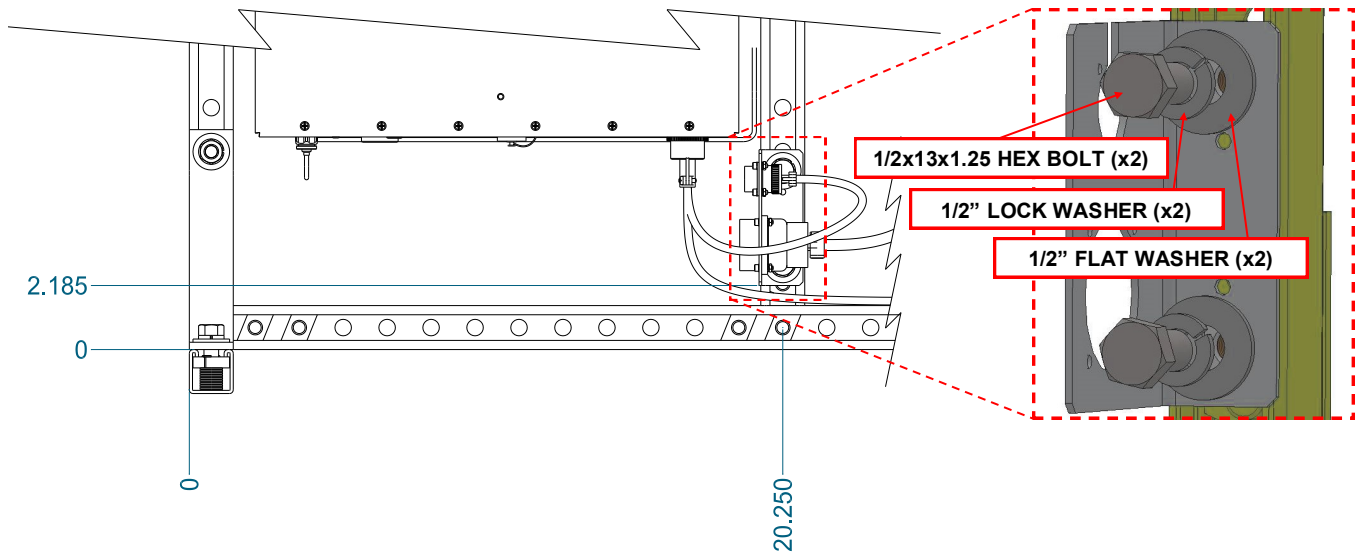

Figure 2-22: Installation, I/O Panel
Insert two self-holding nuts in the channel of the vertical uni-strut between HPA1 and HPA2, closest to HPA1. Align the I/O Panel as shown in **Figure 2-22**, and secure to the uni-strut using two (2) sets of hex bolts, lock washers and flat washers.